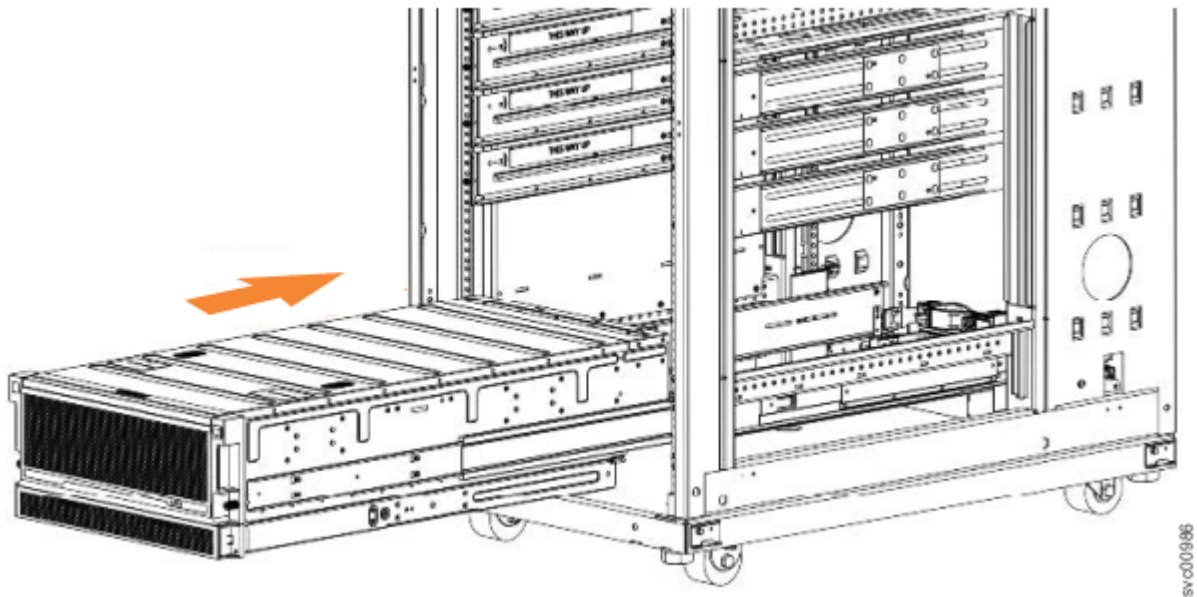

Figure 49. Example installation of the enclosure in the rack
- Install the expansion enclosure in the lowest position in the rack. Figure 49 on page 50 shows an example.